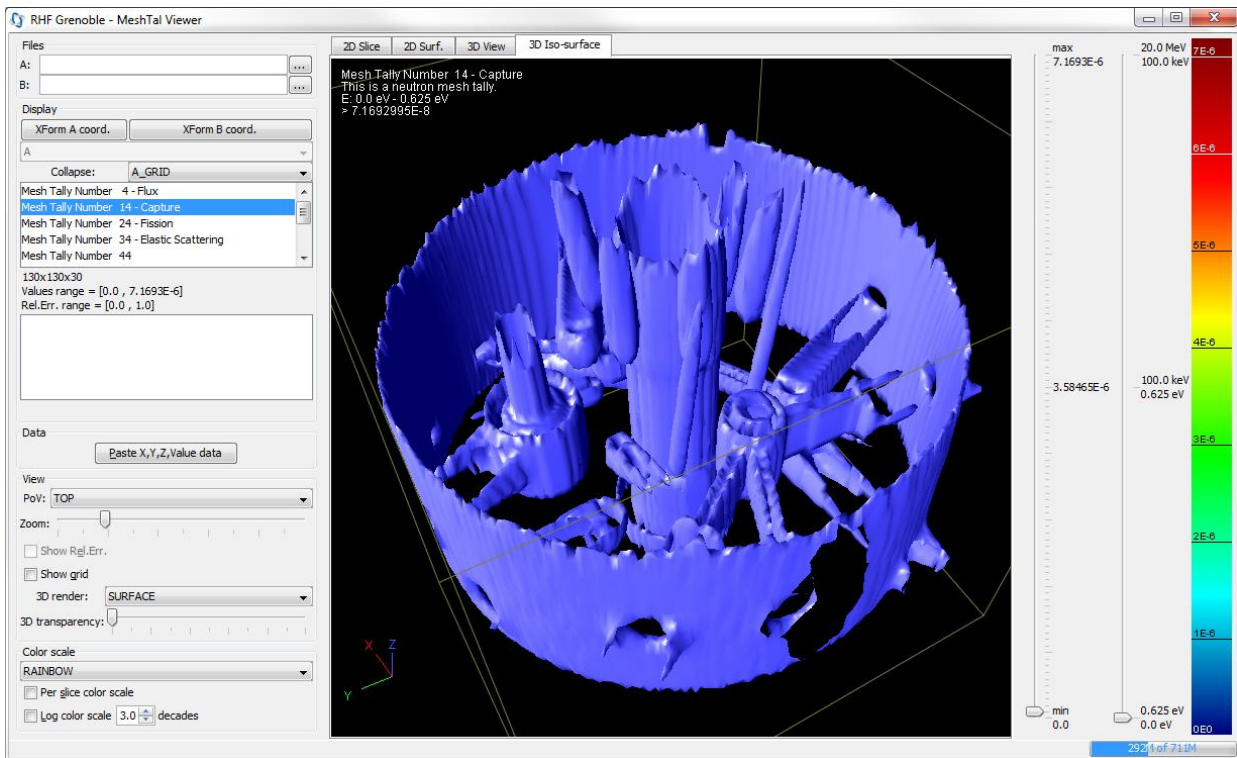

Figure 14: 3D Isosurface view, RHF thermal capture
- 3D Isosurface, Shown in Figure 14. The isosurface plots the flux/reaction rate above a threshold value, controlled by the slider bar.